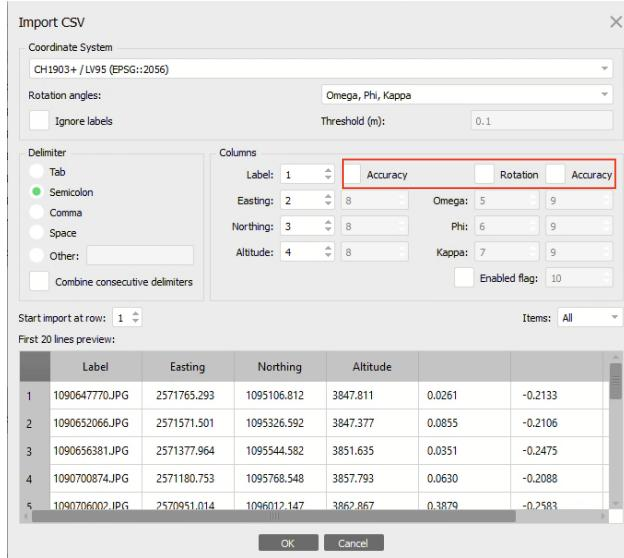

Figure 1: **Fig. 1: Import Reference Settings - No Attitude/Accuracy**
- When importing the reference file, configure the following settings as shown in **Fig. 1** below:
Note: Ensure that the **Accuracy** and **Rotation** boxes in the **Columns** section are **unselected** for this step (Fig. 1).